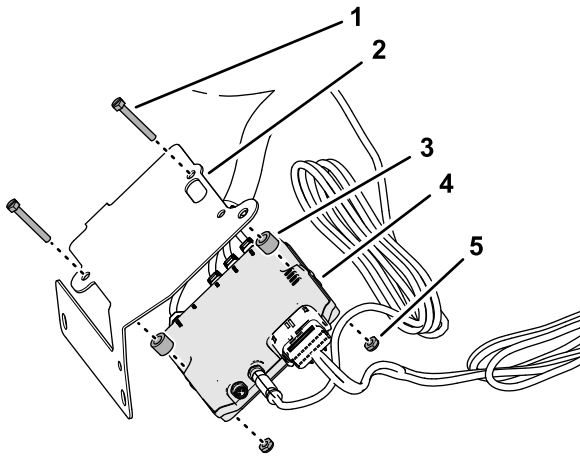

Figure 195
4. Assemble the modem bracket to the CL-55 modem with 2 slotted machine screws (#10-24 x 1-1/2 inches), 2 spacers (1/4 x 3/4 inch), and 2 locknuts (#10-24) as shown in Figure 195.